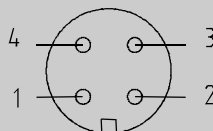
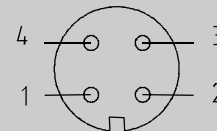

Fig. 2. Level indicator (No. 16) – contact assignment of the upper connector
Fig. 3. Level indicator (No. 16) – contact assignment of the lower connector
- 16 Connector level switch (Fig. 2, Fig. 3)**
In addition to the optical indicator, the MQL system LubriLean® VarioPlus is equipped with a 4-point float switch. For the connector assignment, please refer to Fig. 2 and Fig. 3.